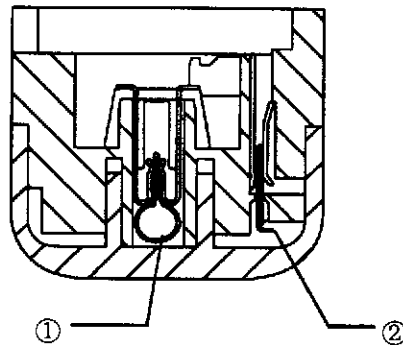

Fig. 4
With socket and headlamp assembled, Attach thermocouple at ①② as shown in Fig.4. Turn on the lamp at 85 ± 5 degree. When the temperature has stabilized, measure the temperature at the each position.